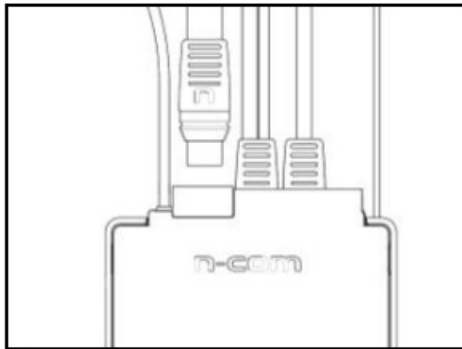

Fig. 37
- Line up the keypad flex connector to the e-box making sure that the letter “ON” is pointing as shown in Fig. 37.
- **N.B.** If the system does not work, remove the flex and repeat the previous operation, making sure that the “ON” is positioned as in Fig. 37.